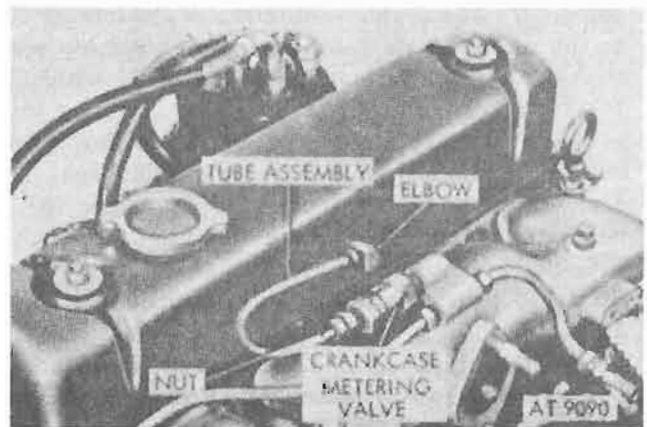

Figure 4-286. Crankcase ventilation outlet tube assembly and attaching parts.
Connect one $\frac{1}{4}$ NPT $\times\frac{1}{2}$ -20, 90° elbow (1) to rocker arm cover; tighten and position elbow. Connect one $\frac{1}{5}$ NPT $\times\frac{1}{2}$ \times 20 nut (3) to crankcase metering valve. Install tube assembly (2) and tighten tube nuts firmly (fig. 4-286).